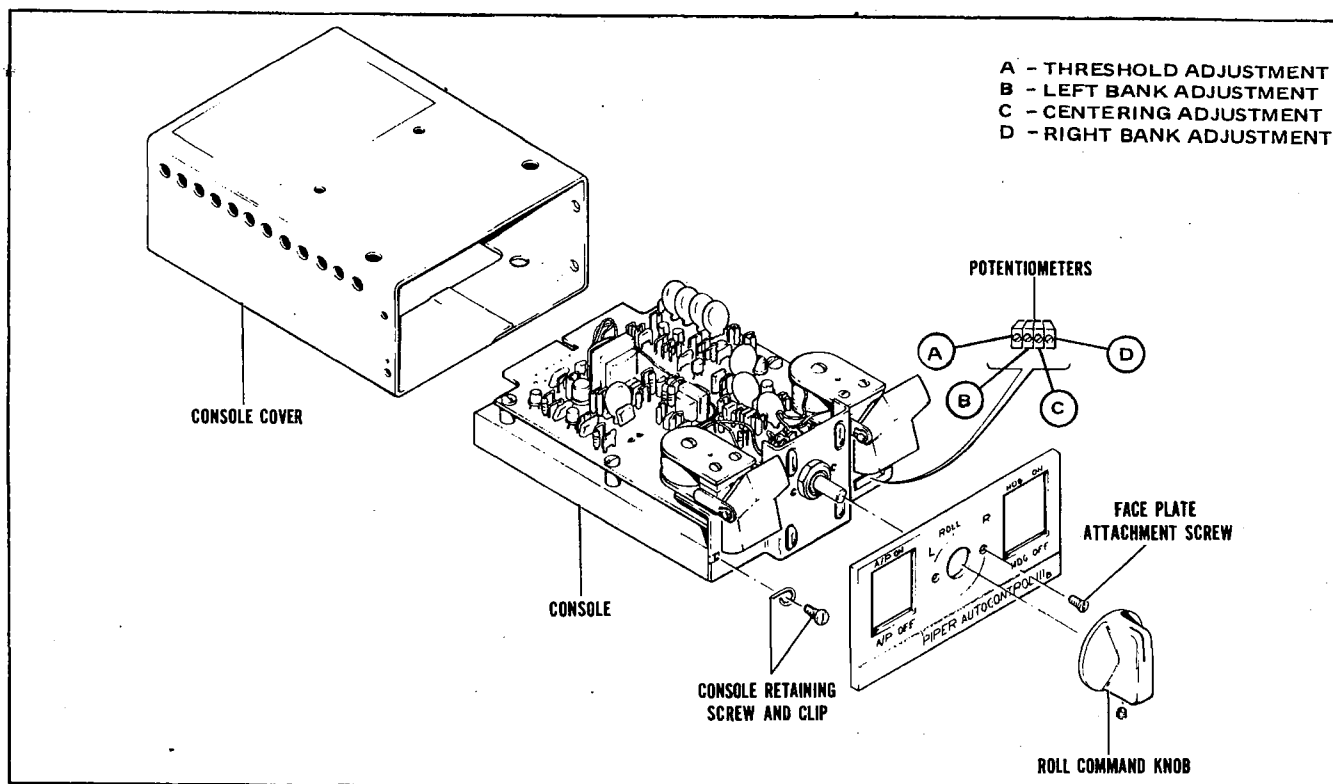
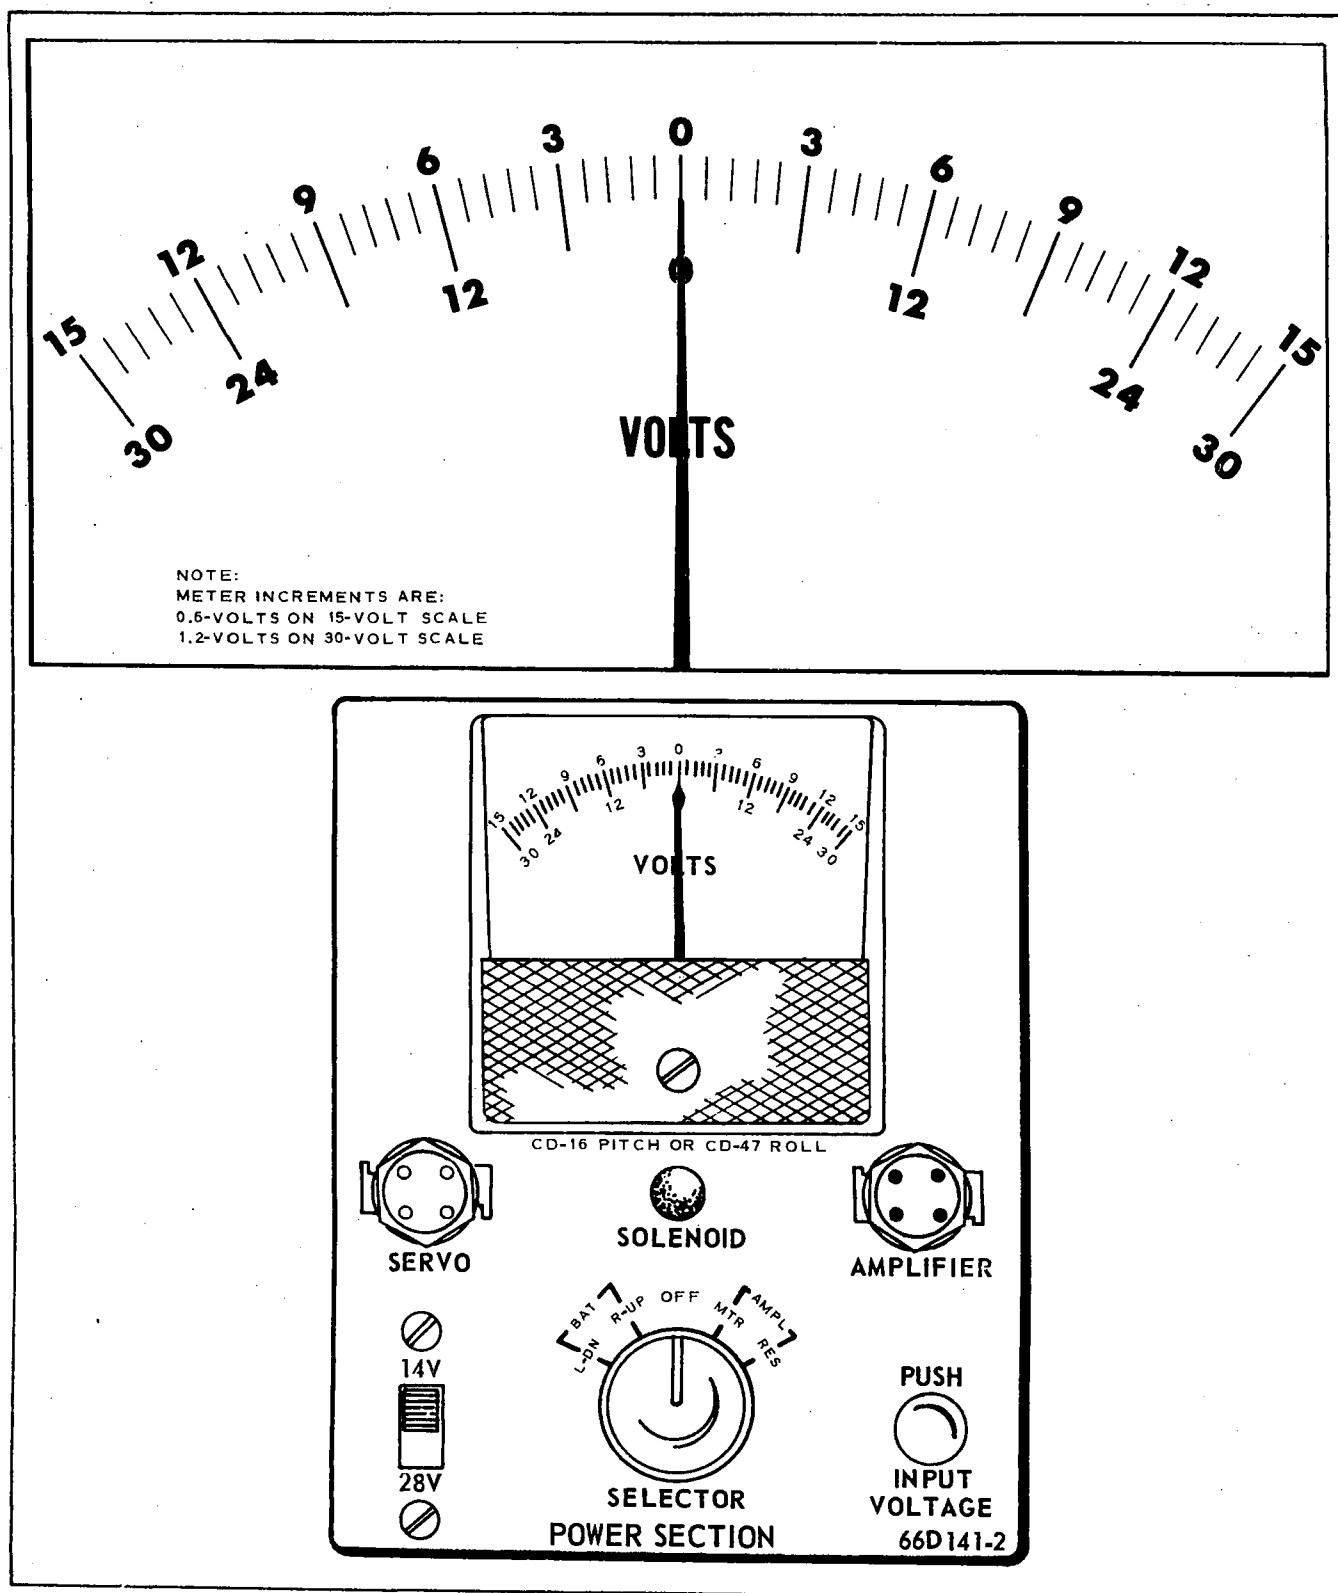

Figure 5-1. AutoControl III B Console
Figure 5-2. Power Section Test Box
23. With a small slot-head screwdriver, adjust the centering adjustment potentiometer (third potentiometer from left on front of console) (refer to Figure 5-1) as required to center the needle on the Power Section Test Box to zero.
30. With small slot-head screwdriver, adjust right bank adjustment potentiometer (fourth potentiometer from left on front of console) (refer to Figure 5-1) as required to center the needle on the Power Section Test Box to zero.
33. With small slot-head screwdriver, adjust left bank adjustment potentiometer (second potentiometer from left on front of console) (refer to Figure 5-1) as required to center the needle on the Power Section Test Box to zero.
5. Rotate the LARGE VERNIER CONTROL KNOB on Gyro Substitute Test Box CLOCKWISE for a one (1) degree right bank.
6. Observe voltmeter on Power Section Test Box and record meter reading. (Refer to Figure 5-2 for enlarged view of voltmeter.)
7. Rotate the LARGE VERNIER CONTROL KNOB on Gyro Substitute Test Box, COUNTERCLOCKWISE for a one (1) degree left bank.
9. If voltage setting is correct, proceed to next step. If voltage setting is incorrect, adjust threshold adjustment potentiometer (left potentiometer on front of console) (refer to Figure 5-1) as required to obtain an average of the voltage settings listed in Table V-I by repeating Steps 5 thru 8.